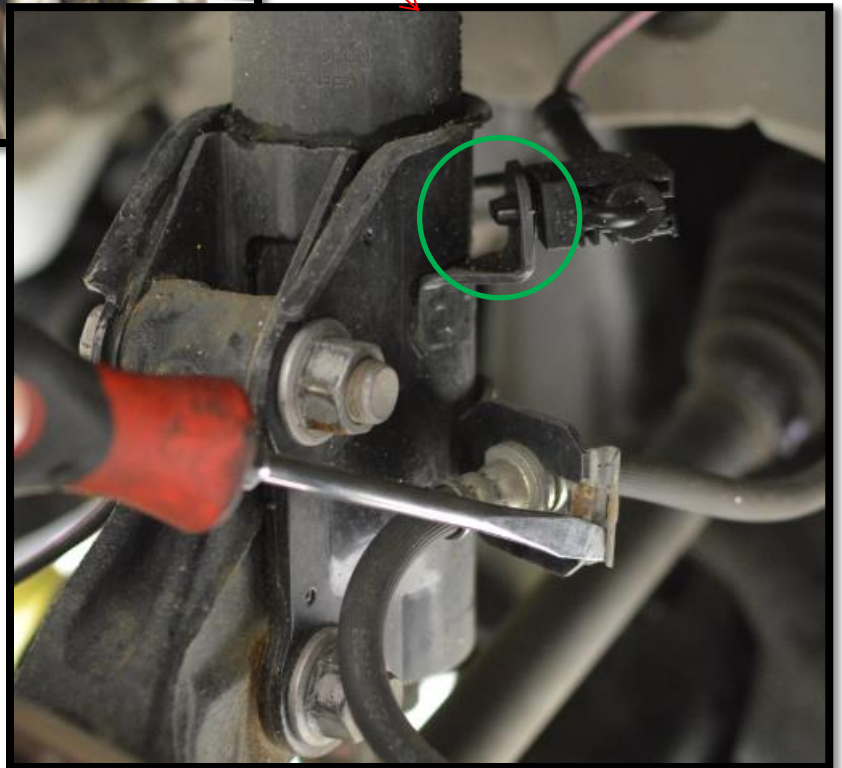

Figure 1b
- e) Remove the brake line clip & brake line as shown in Figure 1b.
- f) Remove the ABS sensor wire shown with the green circle in Figure 1b.